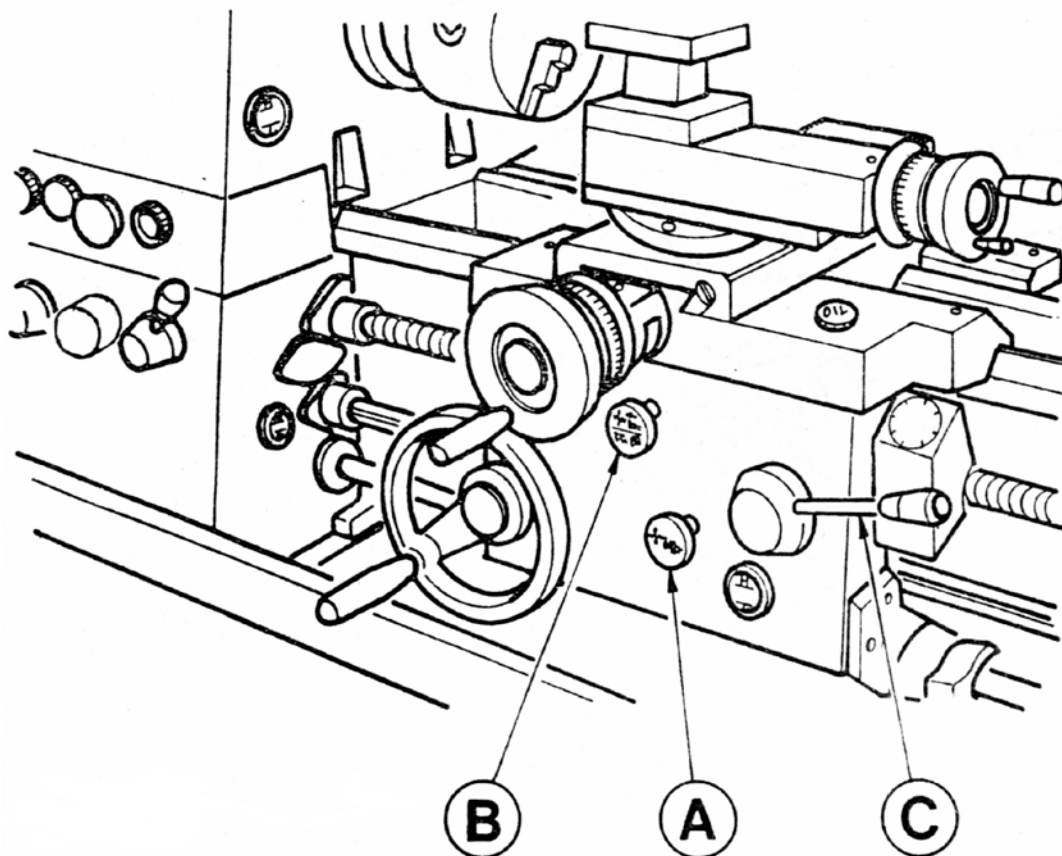

Fig.15
In addition to handwheel traverse, the carriage can be power-operated through controls on the front of the apron see Fig.15 knob (A) is pulled out for power feed engagement and pushed in for manual operation.